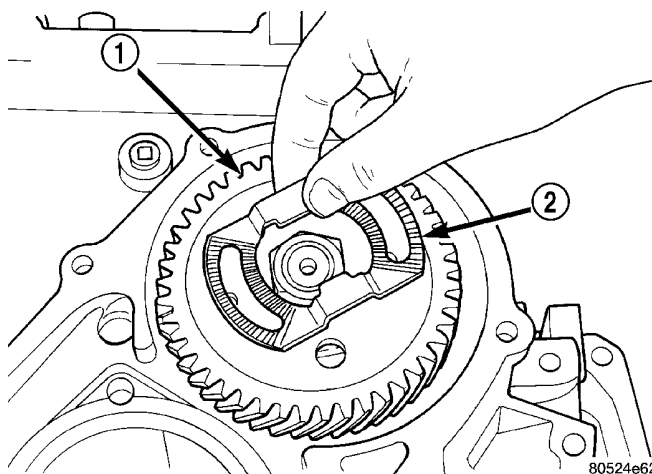
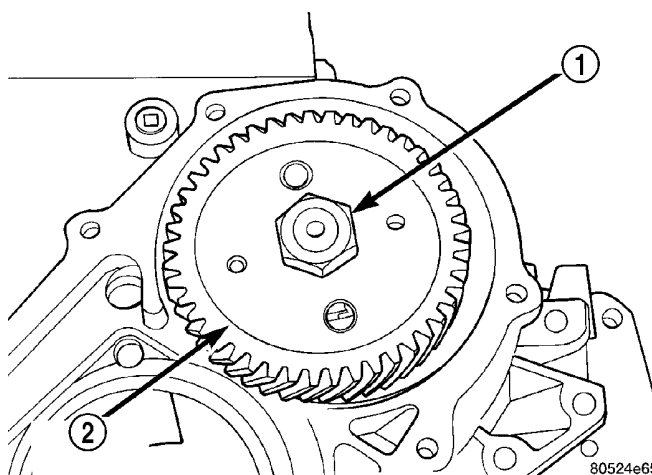

Fig. 123 Remove Stirrup From Gear
Fig. 124 Stirrup and Strap Removed From Output Gear
(4) Remove stirrup from output gear (Fig. 123) (Fig. 124).